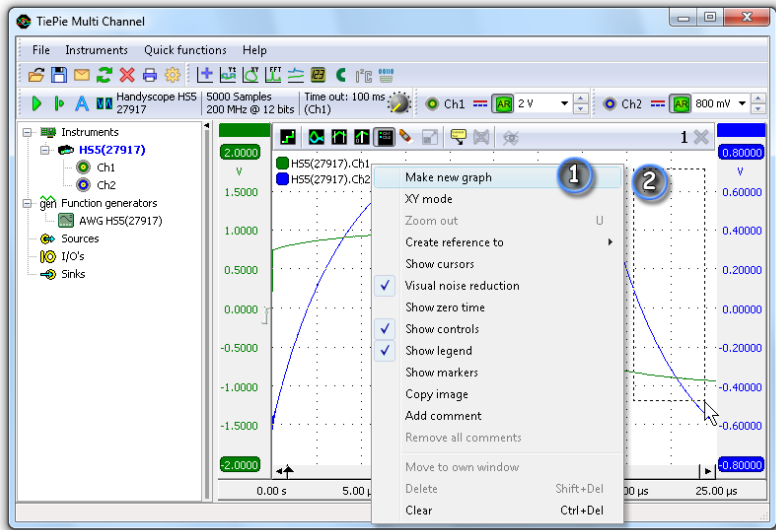

Figure 3.1: Create a new graph in two steps
It is also possible to create a graph at a self defined location. ① Right-click anywhere in a graph on the main screen and select ***Make new graph*** from the menu. ② After dragging a rectangle anywhere on the graph section, a new graph will be created on the selected position. See figure 3.1.